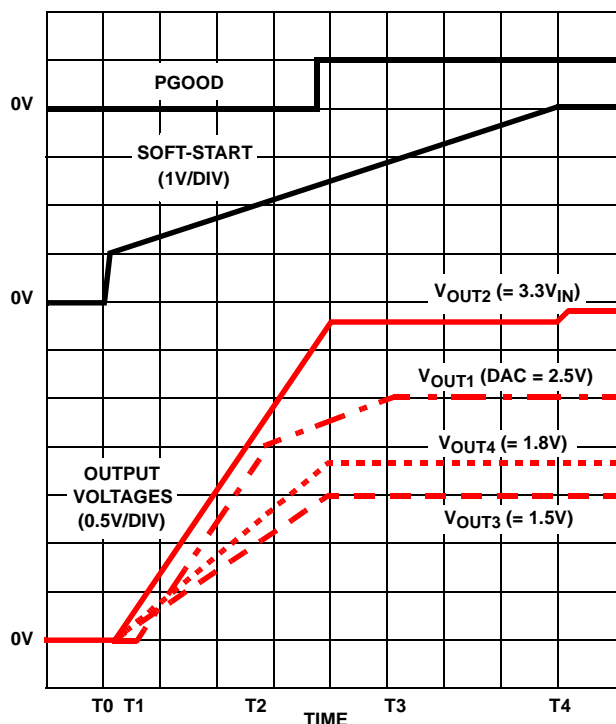
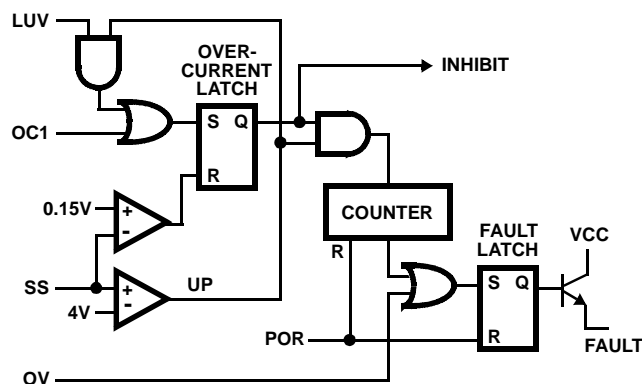

FIGURE 2. SOFT-START INTERVAL
FIGURE 3. FAULT LOGIC - SIMPLIFIED SCHEMATIC
Figure 2 shows the soft-start sequence for the typical application. At T0 the SS voltage rapidly increases to approximately 1V. At T1, the SS pin and error amplifier output voltage reach the valley of the oscillator's triangle wave. The oscillator's triangular waveform is compared to the clamped error amplifier output voltage. As the SS pin voltage increases, the pulse width on the PHASE pin increases. The interval of increasing pulse width continues until each output reaches sufficient voltage to transfer control to the input reference clamp. If we consider the 2.5V core output ( $V_{OUT1}$ ) in Figure 2, this time occurs at T2. During the interval between T2 and T3, the error amplifier reference ramps to the final value and the converter regulates the output a voltage proportional to the
Figure 3 shows a simplified schematic of the fault logic. An over-voltage detected on VSEN1 immediately sets the fault latch. A sequence of three over-current fault signals also sets the fault latch. The over-current latch is set dependent upon the states of the over-current (OC), linear under-voltage (LUV) and the soft-start signals. A window comparator monitors the SS pin and indicates when  $C_{SS}$  is fully charged to 4V (UP signal). An under-voltage on either linear output (VSEN2, VSEN3, or VSEN4) is ignored until after the soft-start interval (T4 in Figure 2). This allows  $V_{OUT2}$ ,  $V_{OUT3}$ , and  $V_{OUT4}$  to increase without fault at start-
Initially, the soft-start function clamps the error amplifier's output of the PWM converter. This generates PHASE pulses of increasing width that charge the output capacitor(s). After the output voltage increases to approximately 70% of the set value, the reference input of the error amplifier is clamped to a voltage proportional to the SS pin voltage. The resulting output voltages start-up as shown in Figure 2.